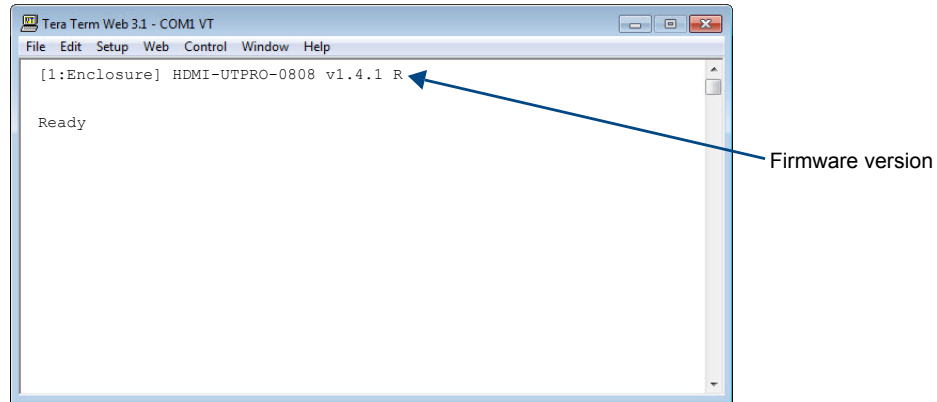

FIG. 70 Power-up splash screen in terminal emulation program
- At system boot, the `~scrV0i1!` setting is displayed (FIG. 70 on page 108).